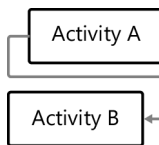

FIGURE 4-6 A start-to-finish relationship is shown with an arrow from the start of the predecessor activity to the finish of the successor activity.
- **Start-to-finish (SF)** A start-to-finish relationship indicates that the successor cannot finish until the predecessor starts. For example, you may have an activity to send the invoice for a product, but the invoice cannot be sent (finished) until delivery of the product has started. This type of relationship is almost never used because it seems to indicate that the successor should be the predecessor and vice-versa. Figure 4-6 depicts how this would be represented diagrammatically.